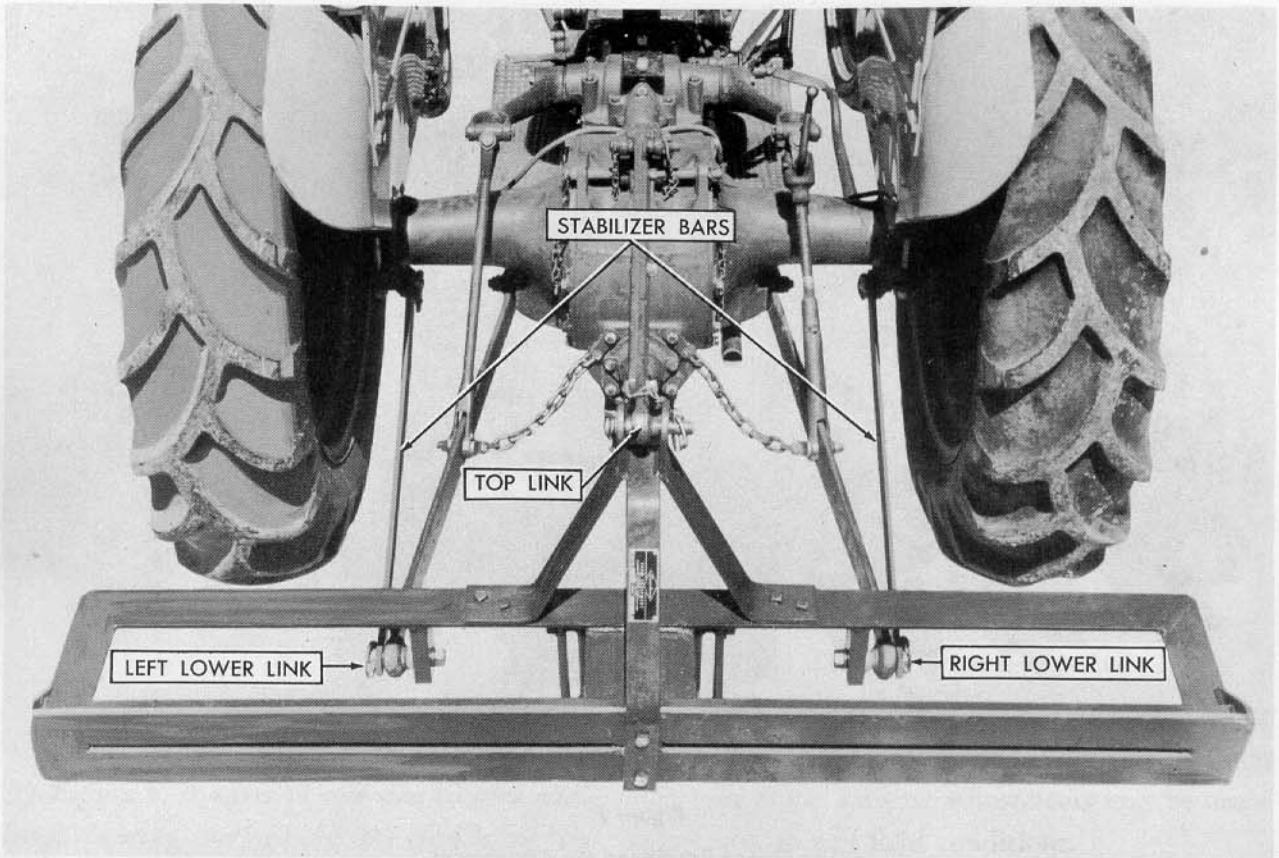

Figure 5
4. Attach the main frame assembly to the tractor as shown in Figure 5. Attach the tractor lower left and right hand links to link pins of the implement and secure with lynch pins. Attach tractor top link to top of link assembly and to tractor main control spring yoke. Secure with lynch pins.